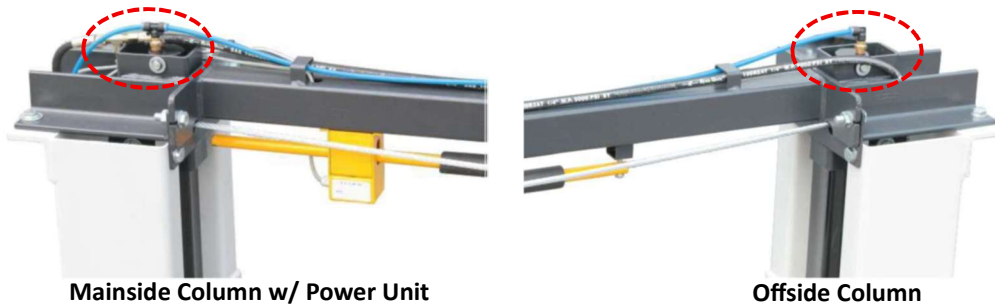

Fig. 5
6. At the top of each column, disconnect the plastic tubing from air fittings and remove tubing and air fittings from top of the cylinders (**Fig. 5**).